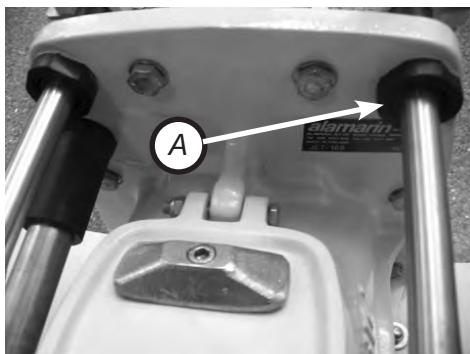
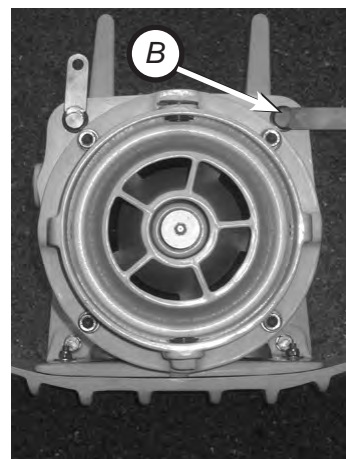

Figure 4.2-1
Figure 4.2-2
The control shaft of the reversing deflector goes through two points of support or lead-throughs: one is in the stern (A), as indicated in figure 4.2-1, and the other one is in the rear flange (B), as indicated in figure 4.2-2. In the support point in the stern, there is a plastic sleeve screwed in the aluminium casting, as well as a shaft seal. The rear flange has only a slide bearing. These parts may wear in the course of time and they should be replaced when necessary.